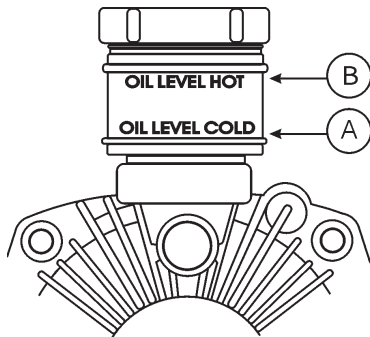

Figure 25. Transmission Reservoir
1. **Transmission Reservoir Cup:** Check every 8 hours of operation. When the transmission is **cold** (A), check oil level against the level indicator (see Figure 25).